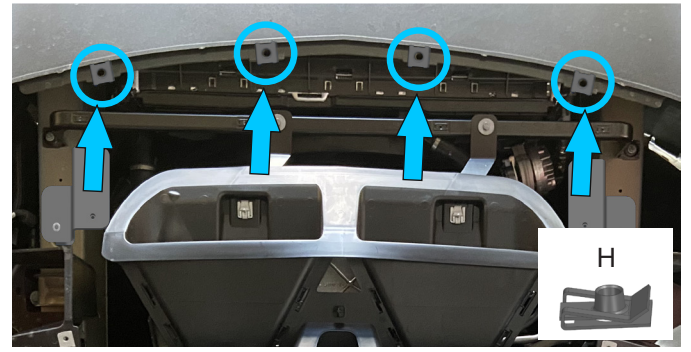

Fig. 8
8. Install the U-nuts M8 on the bumper (item H), as shown in fig.8.